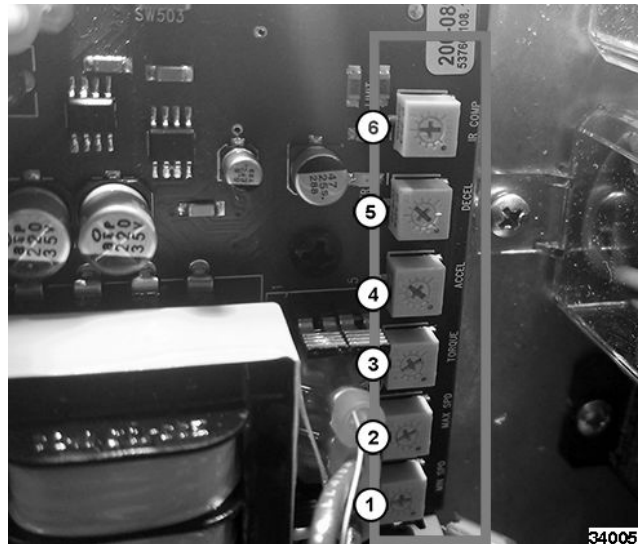

Fig. 66
**Trimpots 2nd Generation Controller Board in Fig. 66**